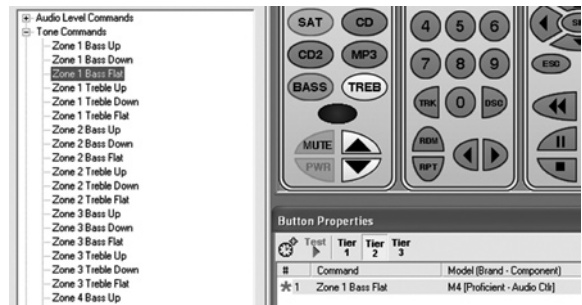

Figure 38 Placing Zone1 Bass Flat Command
5. Click **Tier 2** under **Button Properties**, then double-click **Zone 1 Bass Flat** from the **Tone Commands** list. This will cause the 2nd press of the BASS key to execute the Bass Flat function. This completes the **BASS** key programming. Refer to **Figure 38**.